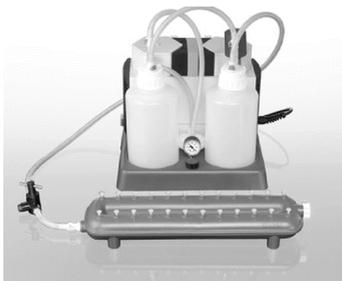

Figure 2. QIAvac 24 Plus, QIAvac Connecting System, and Vacuum Pump
QIAamp Mini columns are processed on the QIAvac 24 Plus using disposable VacConnectors and reusable VacValves. VacValves (optional) are inserted directly into the luer slots of the QIAvac 24 Plus manifold and ensure a steady flow rate, facilitating parallel processing of different sample volumes. They should be used if sample flow rates differ significantly in order to ensure consistent vacuum. VacConnectors are disposable connectors that fit between QIAamp Mini columns and VacValves or between the QIAamp Mini columns and the luer slots of the QIAvac 24 Plus. They prevent direct contact between the spin column and VacValve during purification, thereby avoiding any cross-contamination between samples. VacConnectors are discarded after a single use. Due to the large solution volumes used, the QIAvac Connecting System (or a similar setup with waste bottles) is required (see Figure 2).
- The vacuum pressure is the differential pressure between the inside of the vacuum manifold and the atmosphere (standard atmospheric pressure 1013 millibar or 760 mm Hg) and can be measured using the QIAvac Connecting System (see Figure 2). The protocols require a vacuum pump capable of producing a vacuum or -800 to -900 mbar (e.g., QIAGEN Vacuum Pump). Higher vacuum pressures must be avoided. Use of vacuum pressures lower than recommended may reduce nucleic acid yield and purity and increase the risk of clogged membranes.